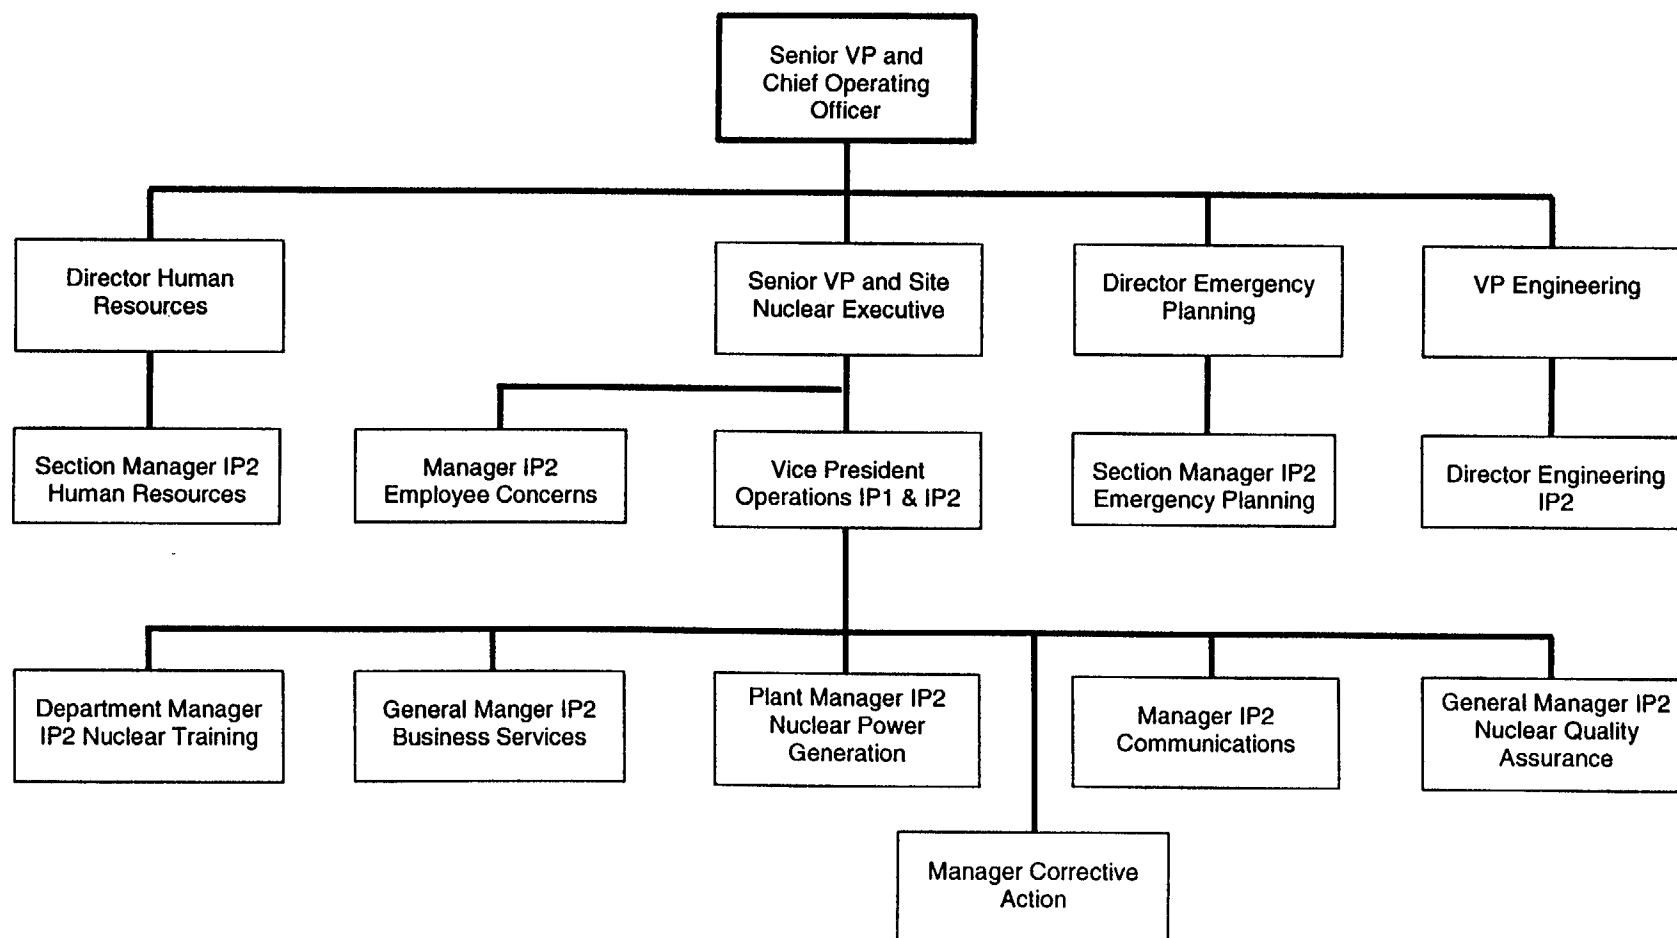

Figure 5-3
This section describes the offsite support available from three (3) sources: Corporate Headquarters, local services, and private sector organizations. The need for this augmentation will be evaluated by the Emergency Plant Manager, Technical Support Center Manager and the Emergency Director. The names and phone numbers of the offsite support contacts are listed in the Emergency Telephone Directory which is maintained in the Unit 2 Control Room, Technical Support Center and in the Emergency Operations Facility. Figure 5-3 illustrates the interface between the Onsite Emergency Organization and the offsite support groups.